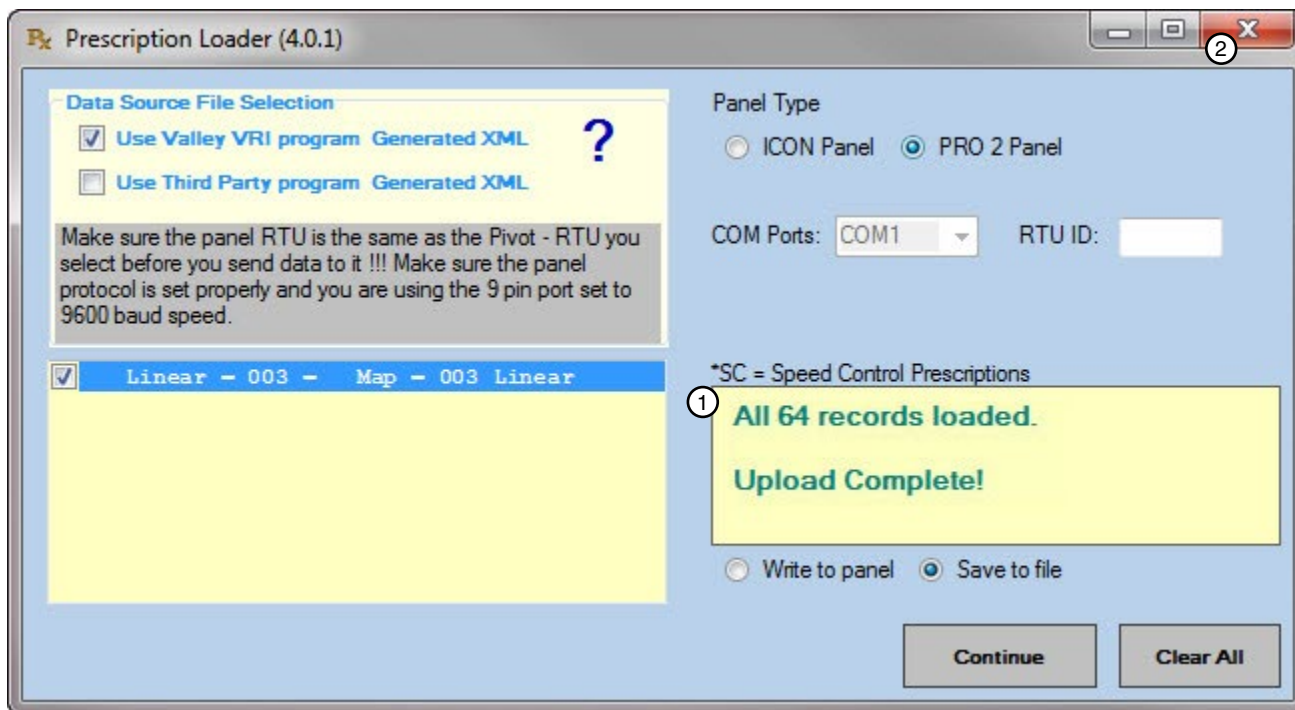

Figure 43-2 1. File Stored Indicator
12. Clicking **Clear All** removes all selections you have made on the screen. See Figure 43-2.
13. Click the **Close** button on the Prescription Loader screen to exit the Prescription Loader application. See Figure 43-2.